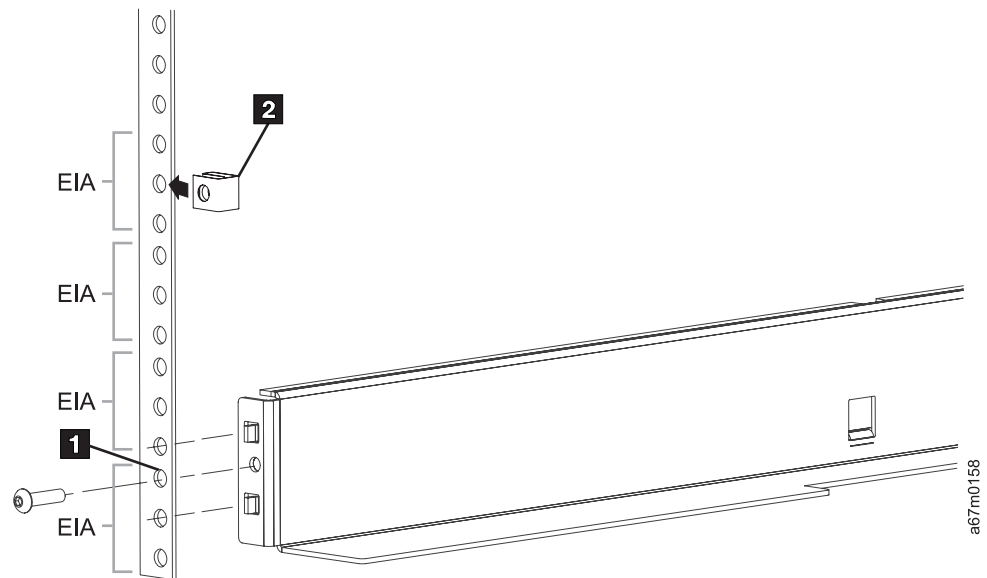

Figure 30. Attaching rails to the front of the rack
3. Select the EIA on which you want to rest your library. You must select the topmost hole in this EIA (see **1** in Figure 30 on page 53) for the rails to align evenly with your rack's holes. Insert the front edge of the rail into your rack. Using a #1 Phillips screwdriver, screw the rail to the rack using one Rail Rack Screw (part number 12J5289).